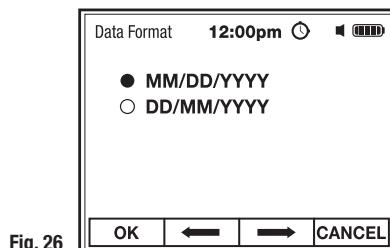

Fig. 26
- Use the F2 \leftarrow and F3 \rightarrow soft keys to select Month/Day/Year or Day/Month/Year (Fig. 26).
- Press the F1 OK soft key to save setting and return to Date/Time Menu (Fig. 26).